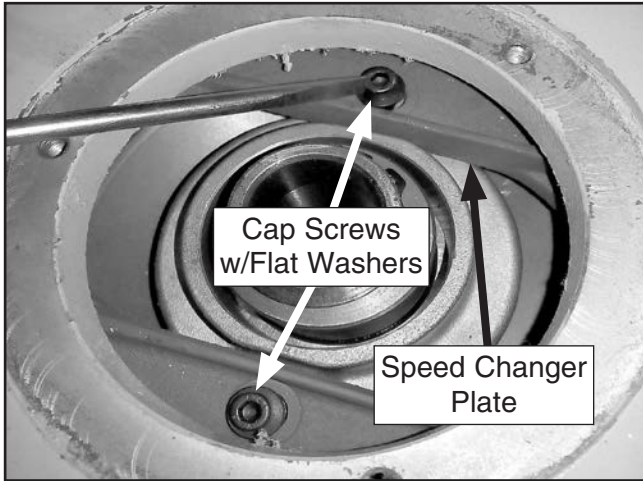

Figure 100. Cap screws must be removed from speed changer plate before disassembling headstock.
7. Remove (2) cap screws with flat washers from speed changer plate, located above spindle (see **Figure 100**).